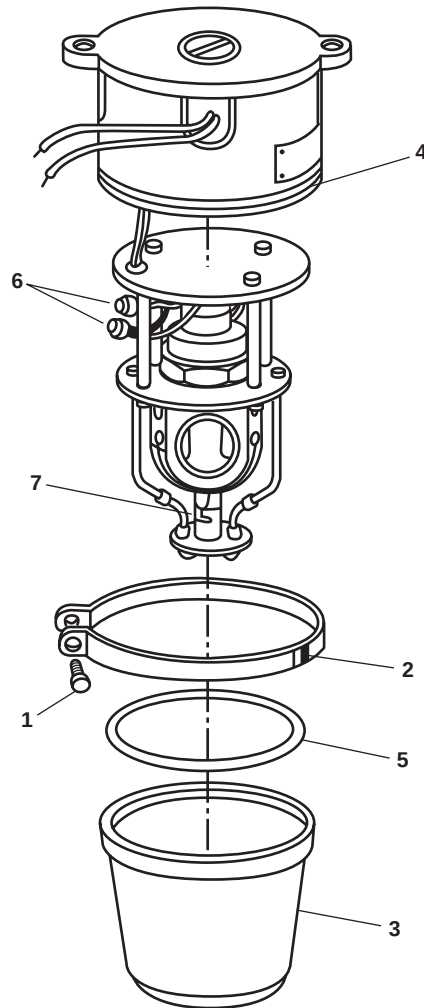

Figure 1. General Alarm Rotating Beacon
1. Loosen the locking screw (figure 1, item 1) just enough to allow removal of the clamp ring (figure 1, item 2).
2. Remove the clamp ring (figure 1, item 2) by sliding it over the bottom of the dome (figure 1, item 3).
3. Remove the dome (figure 1, item 3) from the base (figure 1, item 4) of the beacon.
4. Remove and discard the gasket (figure 1, item 5).
1. Place a new gasket (figure 1, item 5) in the recessed ridge on top of the open end of the dome (figure 1, item 3).
2. Install the dome (figure 1, item 3) by inserting the open end in the base (figure 1, item 4).
3. Install the clamp ring (figure 1, item 2) over the recessed junctions where the base (figure 1, item 4) and dome (figure 1, item 3) meet.
4. Tighten the locking screw (figure 1, item 1) until the dome (figure 1, item 3) is securely fastened in place on the base (figure 1, item 4).
2. Use a multimeter to check for voltage at the connection points under the wire nuts (figure 1, item 6). If voltage is present, ensure that the proper circuit breaker is set to OFF, locked out, and tagged out (FM 55-502). If no voltage is present, continue with the procedure.
3. Rotate the lamp (figure 1, item 7) $\frac{1}{4}$ of a turn counterclockwise, and remove it from the lamp holder.
1. Install the lamp (figure 1, item 7) in the lamp holder, and rotate it $\frac{1}{4}$ of a turn clockwise to secure it in place.